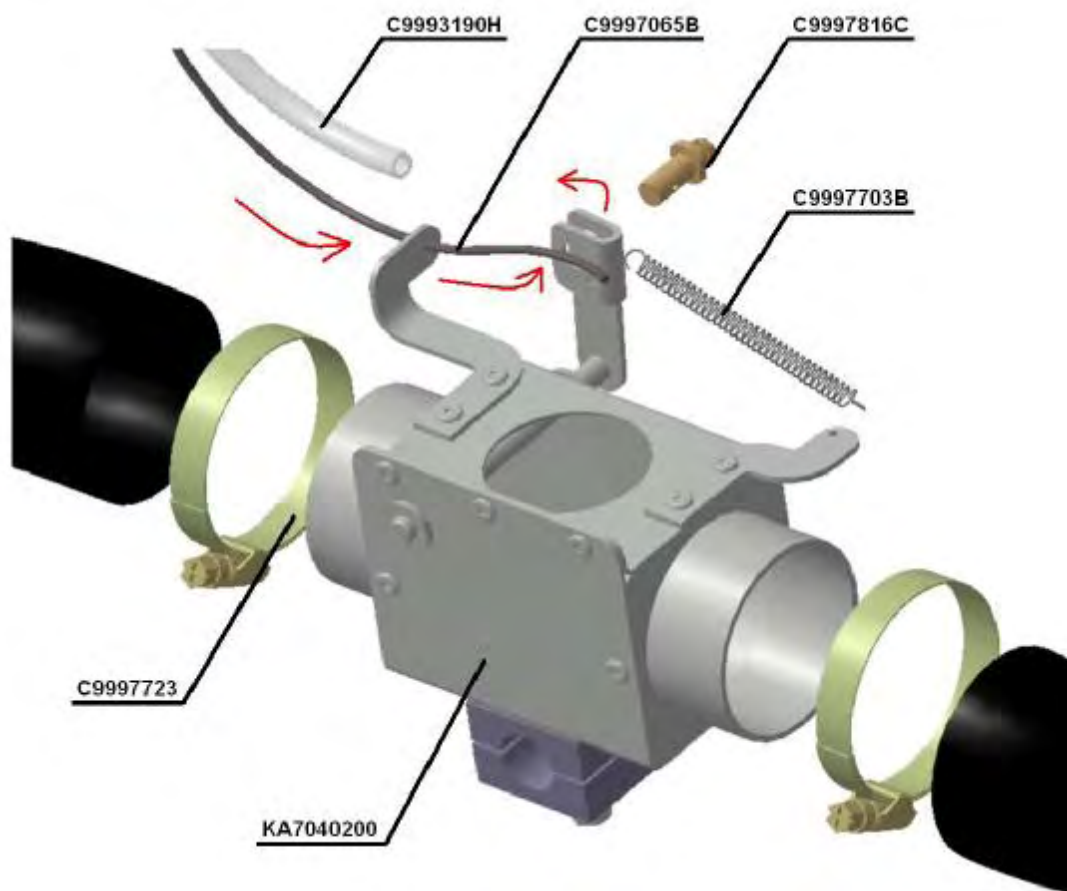

Fig. 4
- a. Check if there is the spring C9997703B Spring 0,5x5,0x25,0 at the Cabin heater choke KA7040200. If the spring is missing or damaged, set a new one. Fig. 4.
- b. Check if the cable C9997065B Steel rope 7x7 1 mm is frayed and if there is the stop C9997816C Cable stop 1806-Z ni at the cable attachment to the Cabin heater choke KA7040200. Fig. 4.
- c. If the stop C9997816C (Cable stop 1806-Z ni) is missing, connect the cable C9997065B (Steel rope 7x7 1 mm) to the Cabin heater choke as shown at the Fig. 4 and fix it by the stop C9997816C (Cable stop 1806-Z ni) using a screwdriver.
- i. Attach the cable C9997065B (Steel rope 7x7 1 mm) to the heating Cabin heater choke KA7040200 as shown by arrows at Fig. 4, secure the cable by C9997816C Cable stop 1806-Z ni.